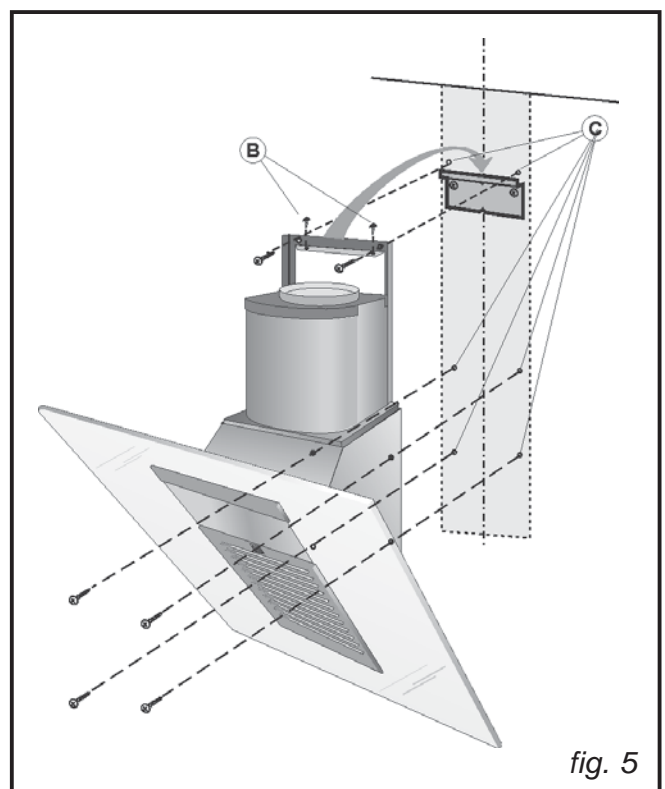

fig. 5
Hang the hood on the bracket (Fig.5). Adjust the horizontal position moving the hood to the right or left so that it is aligned with the wall units. If you also need to adjust the hood in height, operate on the adjusting screws (B) provided.